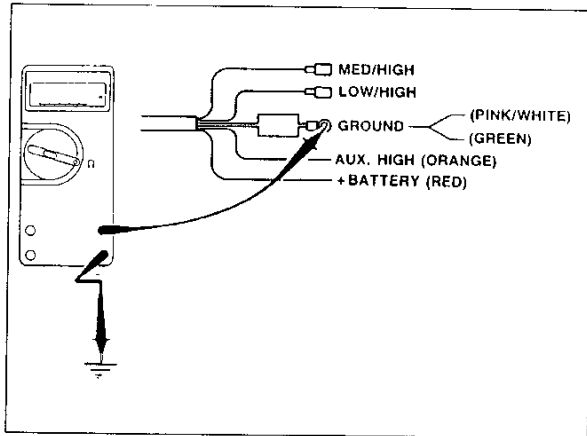

FIG. 1.1.35
**Correction:** ABS connection LOW: Pink/white wire is, for most applications, connected to ground with the green wire. If not connected to ground, brakes will not operate. VOM reading when not connected should be +5 VDC (Fig. 1.1.35).